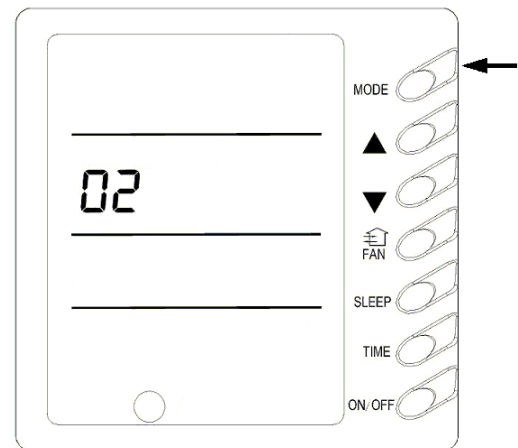

Fig.17
10) Power –off Memory setting (Fig.17)